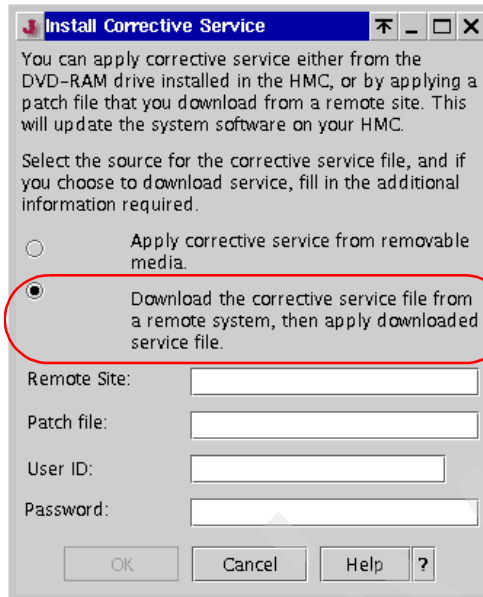

Figure 6-7 *Install Corrective Service* window
2. Select the Install Corrective Services task in the content area. This opens the Install Corrective Services window shown in Figure 6-7 on page 115.